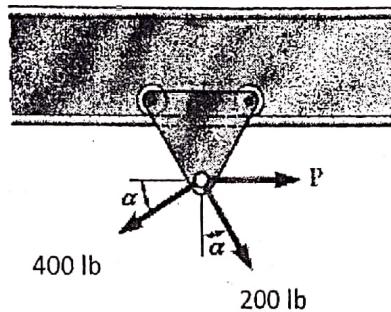

Figure 1(a)
- b) Two cables are tied together at A and loaded as shown in figure 1(b). Draw [8] the free-body diagram and determine tension in each cable.